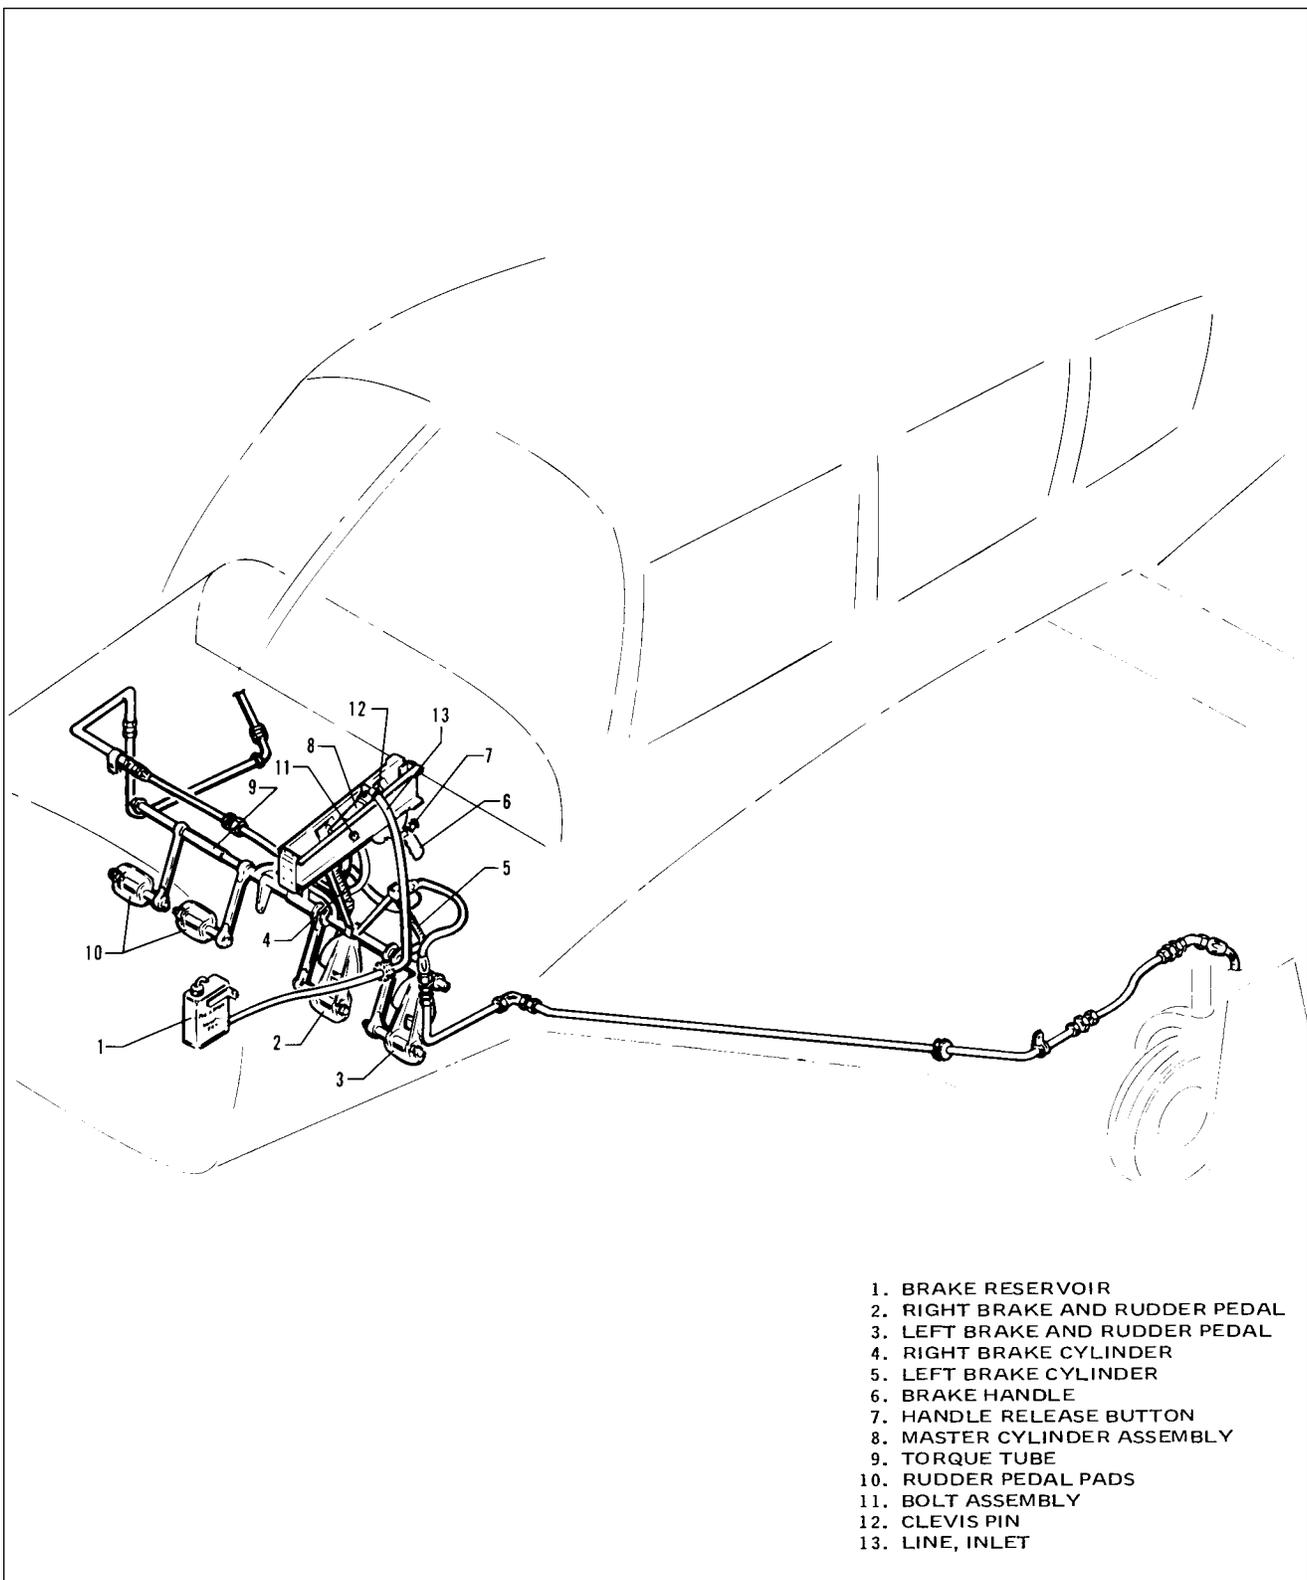

Figure 32-17. Brake System Installation
**REMOVAL OF BRAKE MASTER CYLINDER. (Refer to Figure 32-17.)**
**INSTALLATION OF BRAKE MASTER CYLINDER.** (Refer to Figure 32-17.)